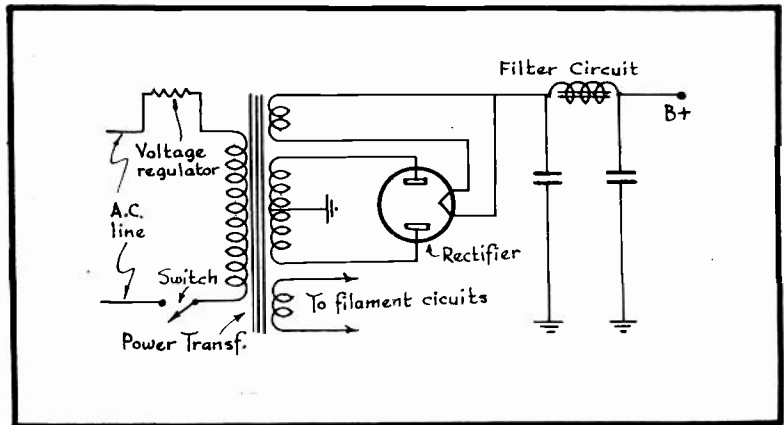

Fig. 1
1. - To REMEDY SUCH A CONDITION A LINE VOLTAGE REGULATOR CAN BE CONNECTED IN SERIES WITH THE A.C. LINE AND THE PRIMARY WINDING OF THE RECEIVER'S POWER TRANSFORMER AS SHOWN IN FIG. 1.